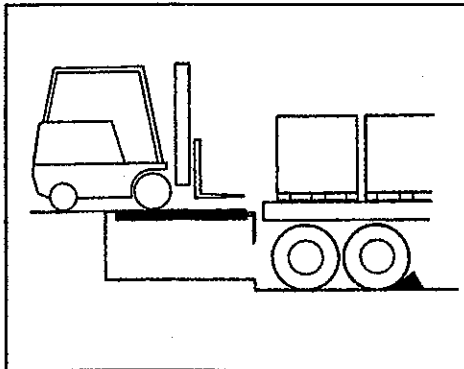

Fig. 34. Chock Truck Wheels
2. CHOCK TRUCK/TRAILER WHEELS. The truck restraint cannot be operated while the OPERATION switch is in BYPASS. See Figure 34.